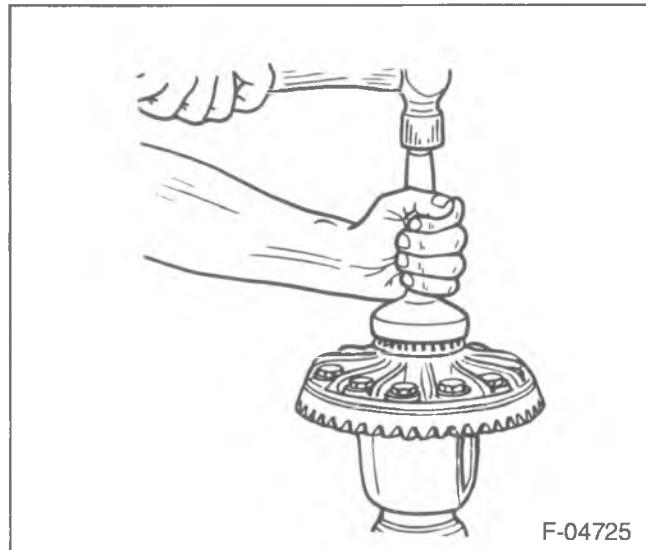

Figure 119—Installing the Differential Bearings
10. Place the proper shims on the differential side bearing hub (ring gear side) and drive the differential bearing onto the hub using J-23690 and J-8092 (figure 119).